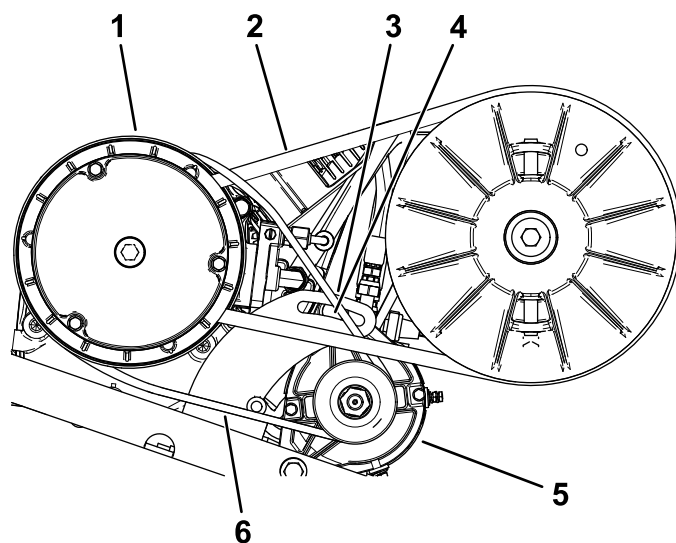

Figure 68
2. Loosen the pivot nut for the starter generator (Figure 68).
4. Apply downward pressure to the pry bar to rotate the starter down in the slot until the belt tension only allows 6 mm (1/4 inch) belt deflection with 44 N·m (10 ft-lb) of force (Figure 68).
5. Tighten the pivot nut by hand, and remove the pry bar (Figure 68).